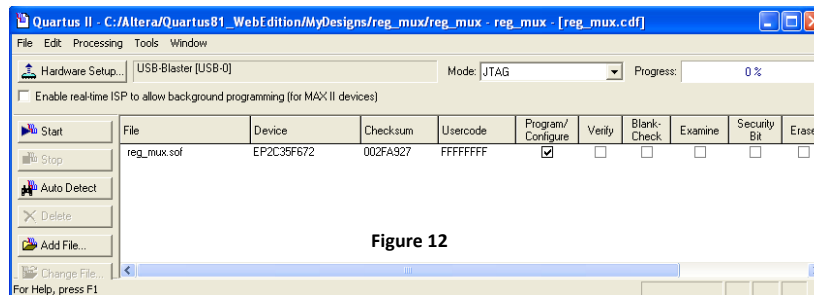

Figure 12
b) In Quartus II, click the Programmer icon  or select **Tools > Programmer**. figure 12 will be displayed. Note the following in the figure: